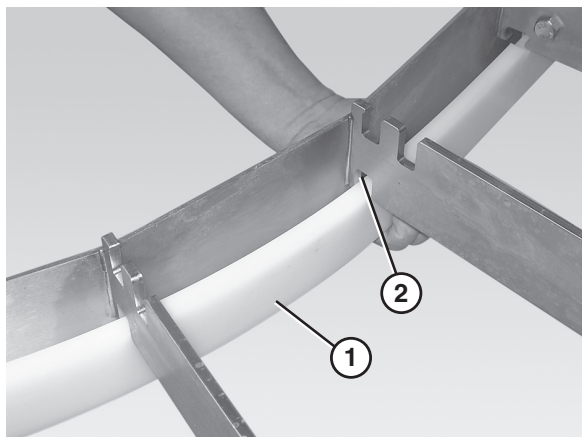

Figure 39
1. Insert the inside return bottom wear strip (**Figure 39, item 1**) into the slots (**Figure 39, item 2**) on the lower inside section of the frame (figure shown without the belt or wear strips).
2. Attach the chain return shoes (**Figure 39, item 1**) to the curve return shafts (**Figure 39, item 2**).